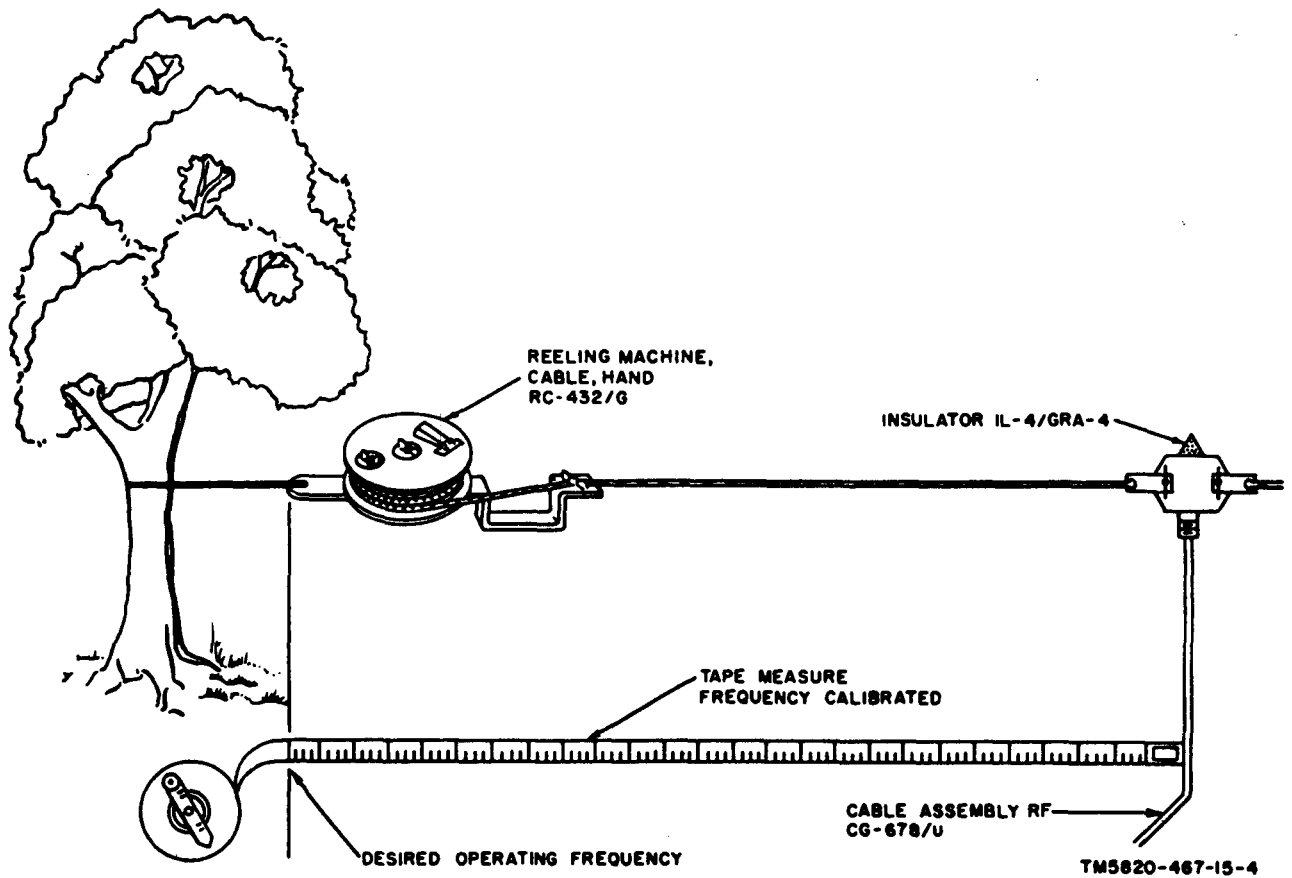

Figure 4. Use of tape measure to determine antenna wire length.
- (1) In the installation procedure in *b* below, use the tape measure to determine the proper length of antenna wire for the desired frequency of operation. Unroll the tape measure to the desired frequency marking and unroll an equal amount of antenna wire from each reel assembly (fig. 4). The length indicated on the tape measure opposite the desired frequency marking is half of the required total antenna length at that frequency.
- (2) The following chart lists the length of each antenna wire (including the reel assembly frame) required for frequencies between 1.5 and 20 mc. When the tape measure is not available, use the chart to determine each antenna wire length. Pace off (one stride is approximately 3 feet) the indicated antenna length; make final adjustment by lengthening or shortening the antenna assembly for the best transmitter loading.